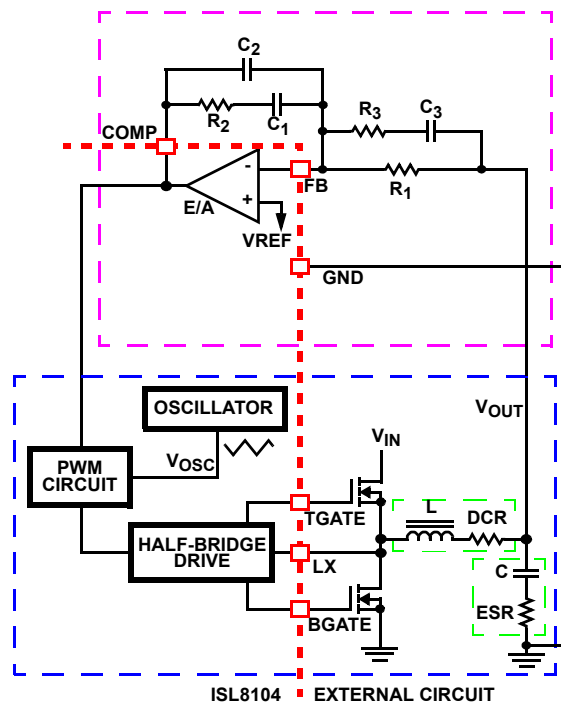

FIGURE 7. VOLTAGE-MODE BUCK CONVERTER COMPENSATION DESIGN
Figure 7 highlights the voltage-mode control loop for a synchronous-rectified buck converter. The output voltage is regulated to the reference voltage level. The error amplifier output is compared with the oscillator triangle wave to provide a pulse-width modulated wave with an amplitude of V_{IN} at the LX node. The PWM wave is smoothed by the output filter. The output filter capacitor bank's equivalent series resistance is represented by the series resistor ESR.
1. Select a value for R₁ (1kΩ to 10kΩ, typically). Calculate value for R₂ for desired converter bandwidth (F₀). If setting the output voltage to be equal to the reference set voltage as shown in Figure 7, the design procedure can be followed as presented in Equation 8.